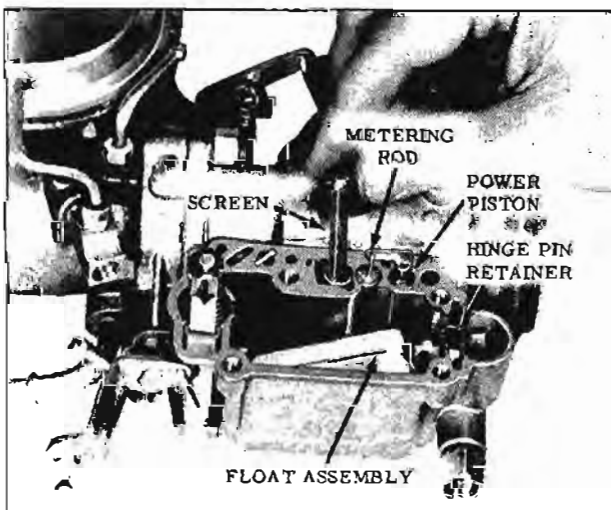

Fig. 9-117 Float Bowl Assembly
4. Remove float hinge pin spring retainer; then remove float assembly and hinge pin together. Remove hinge pin from float arm. (Fig. 9-117)
5. Remove screen from main well. (Fig. 9-117)
7. Remove the power piston and metering control rod assembly by turning small retaining pin to side, at the top of the power piston. (Caution - Piston is spring-loaded.) Then remove power piston, spring and metering rod. (Fig. 9-117)